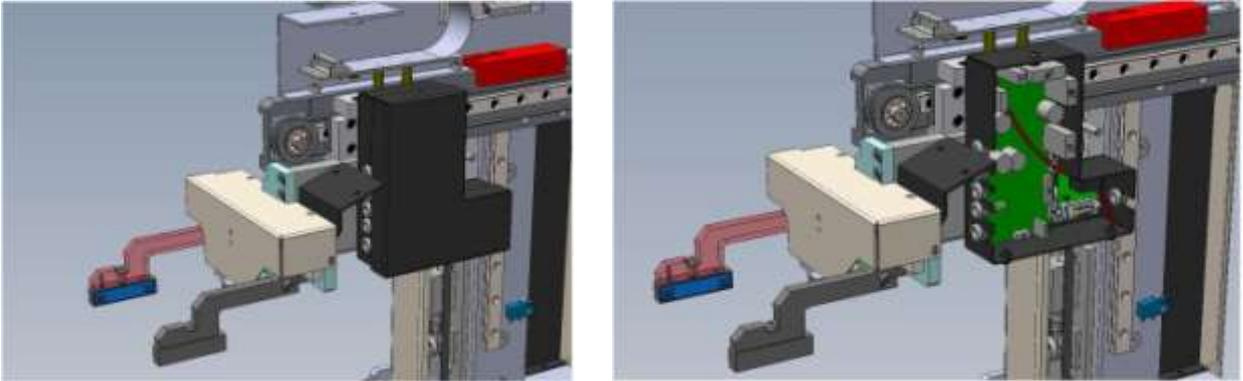

Fig: 50
- Remove the cover from the Z axis drive box (see Fig 50) to allow you to feed the barcode reader cable through the cable holes.